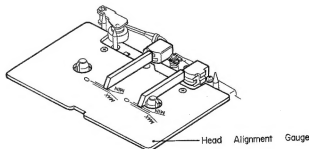

Fig. 4.2
Refer to Fig. 4.2.
- (1) Load the base of the Head Alignment Gauge (DA09092B) carefully, then push the base toward the Record/Playback Head to eliminate the clearance between the reference pin and the base.
- (2) Set the cassette deck in Play mode.
- (3) Place the small block of the Head Alignment Gauge (DA09092B) on the base.
- (4) Contact the small block with the Record/Playback Head surface and the Erase Head surface, and check whether the end of the small block is located within the specified tolerance as shown in Fig. 4.2.